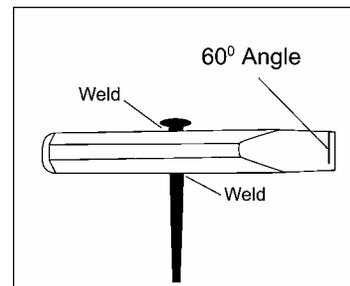

Figure 4.4
- Grind a 60° angle on the chipping end of the hammer, as shown in Figure 4.4.
- Insert the 3/8" round rod in the hole in the 1" rod and weld it where it enters and exits the larger rod, as shown in Figure 4.4.